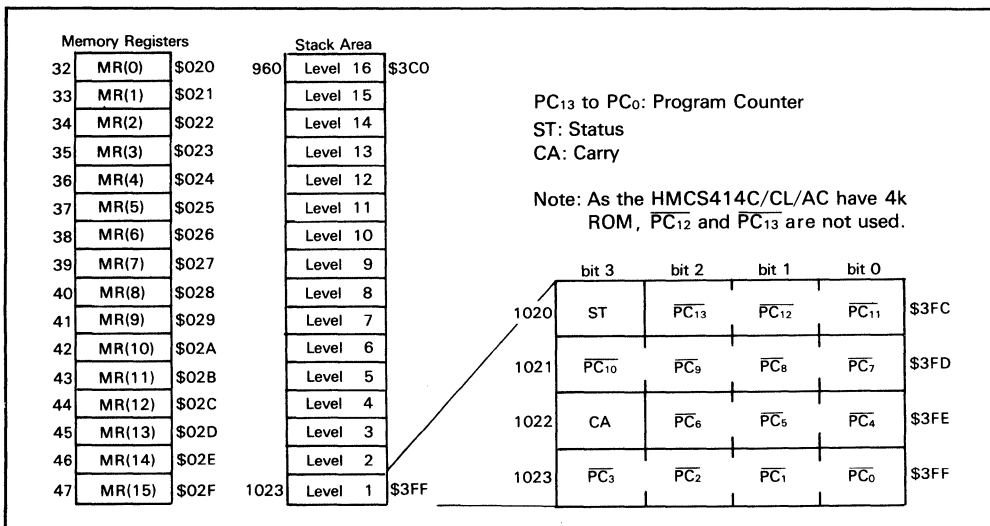

Figure 4. Configuration of Memory Register, Stack Area, and Stack Position
Data Area (\$020 to \$07F): 16 digits of \$020 through \$02F are called memory registers (MR) and are accessible by LAMR and XMRA instructions (figure 4).
broutine call (CAL-instruction, CALL-instruction) and interrupts are serviced. This area can be used as a 16 nesting level stack in which one level requires 4 digits. Figure 4 shows the save condition. The program counter is restored by RTN and RTNI instructions. Status and carry are restored only by RTNI instruction. This area, when not used for a stack, is available as a data area.